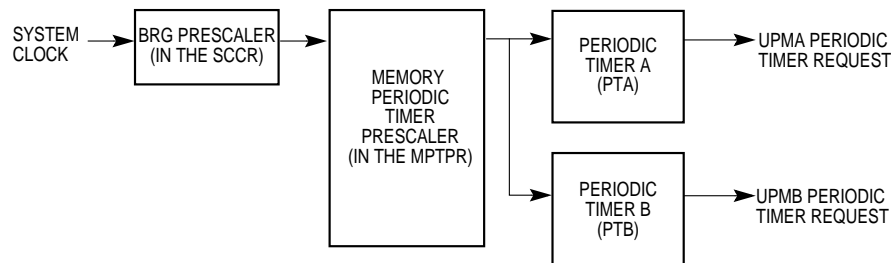

Figure 15-22. Memory Periodic Timer Request Block Diagram
**15.5.1.2 MEMORY PERIODIC TIMER REQUESTS.** Each UPM contains a periodic timer that can be programmed to generate periodic service requests that will be indexed into the RAM array. Figure 15-22 illustrates the hardware associated with memory periodic timer request generation. In general, the periodic timer is used for refresh cycle operation.